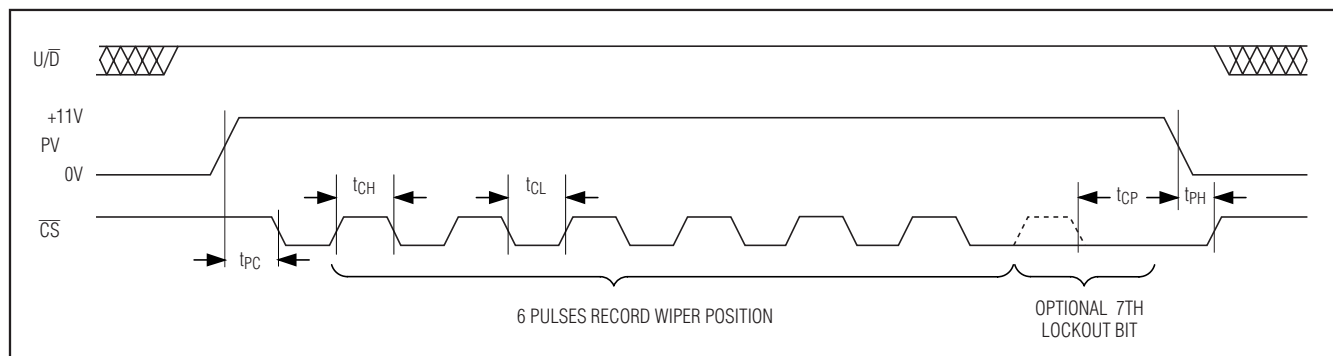

Figure 5. One-Time Program Mode, Serial-Interface Timing Diagram
Change the wiper's power-up position using the PV one-time programming sequence after power-up (see Figure 5). After setting the wiper to the desired power-up position, perform the following six-step sequence:
- 4b) Pulse  $\overline{CS}$  high for seven cycles, consisting of  $\overline{CS}$  starting low and going high for at least  $t_{CH}$  and then low for at least  $t_{CL}$ , to change the wiper power-up position and lock the wiper in that same position. The seventh  $\overline{CS}$  pulse is labeled the optional lockout bit in Figure 5.